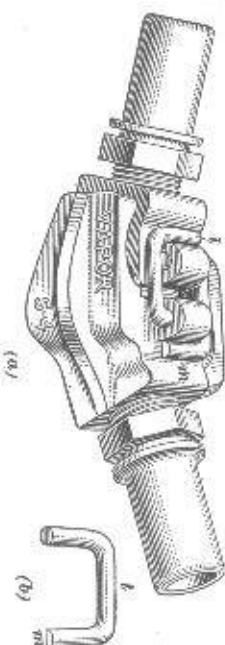

FIG. 13
12. A simple locking device used on an S-4 coupler is shown in Fig. 13 (*a*). It consists of a short U-shaped hook *l*, view (*b*), one leg of which passes through the lug on the coupler head, leaving the other end free. When two couplers are connected, the free end of each hook is thrown over the lug on the other coupler head, thus locking the two couplers firmly together. The lock should not be put in place until the coupler heads are properly connected.